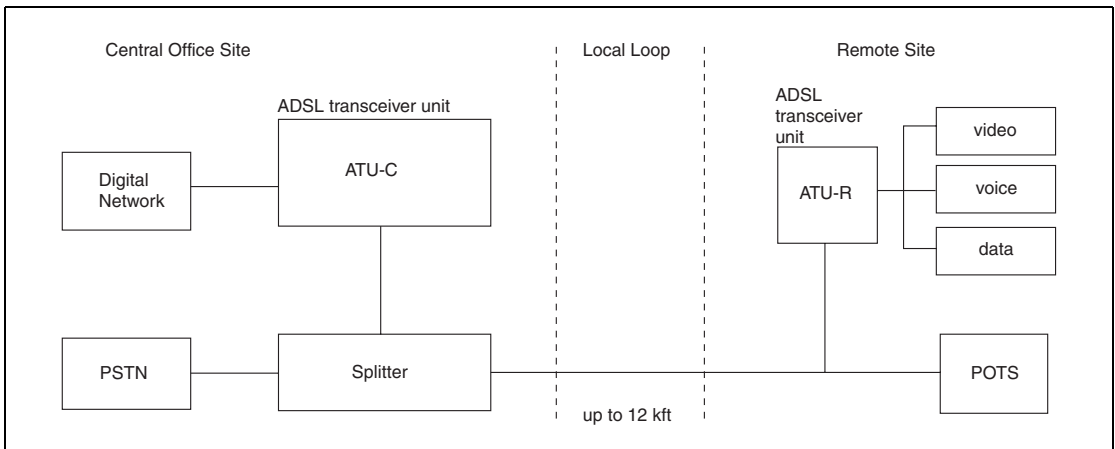
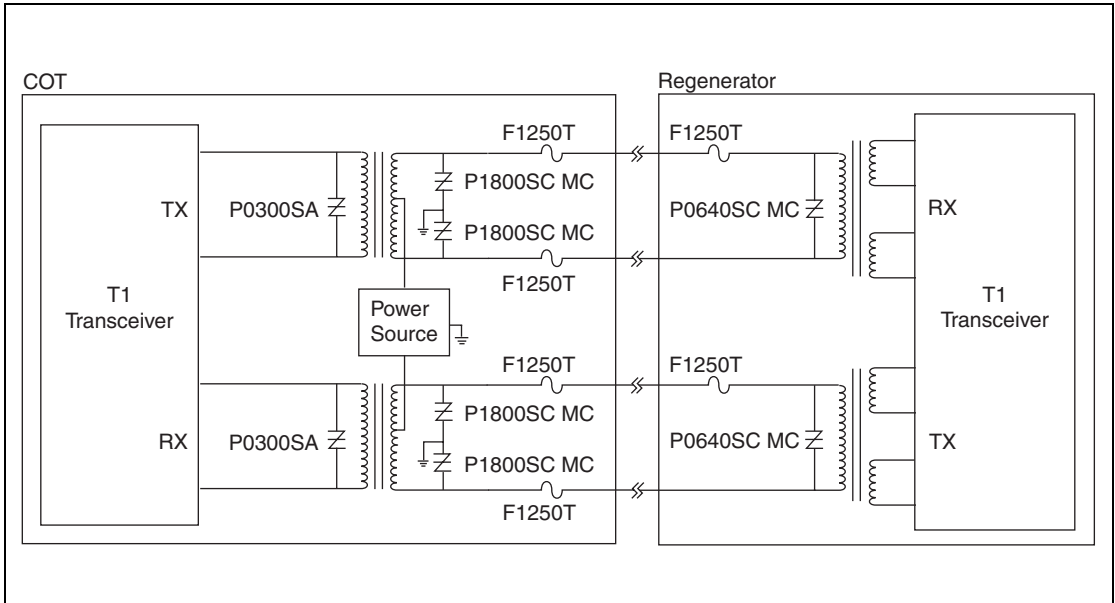

Figure 3.7 ADSL Overview
Figure 3.17 T1/E1 Protection
Transmission equipment should be protected against overvoltages that can exceed 2500 V and surge currents up to 500 A. In Figure 3.7 through Figure 3.17, *SIDACtor* devices were chosen because their associated peak pulse current ( $I_{PP}$ ) rating is sufficient to withstand the lightning immunity tests of GR 1089 without the additional use of series line impedance. Likewise, the fuse shown in Figure 3.7 through Figure 3.17 was chosen because the  $\text{amps}^2\text{time}$  ( $I^2t$ ) rating is sufficient to withstand the lightning immunity tests of GR 1089, but low enough to pass GR 1089 current limiting protector test and power cross conditions (both first and second levels).
Asymmetric Digital Subscriber Lines (ADSLs) employ transmission rates up to 6.144 Mbps from the Central Office Terminal (COT) to the Remote Terminal (RT) and up to 640 kbps from the RT to the COT at distances up to 12,000 feet. (Figure 3.7)
Longitudinal protection is required at the Central Office Terminal (COT) interface because of the ground connection used with loop powering. (Figure 3.17) Two P1800SC MC *SIDACtor* devices provide overvoltage protection and two F1250T *TeleLink* fuses (one on Tip, one on Ring) provide overcurrent protection. The P1800SC MC device is chosen because its  $V_{DRM}$  is compliant with TIA-968 regulations, Section 4.4.5.2, “Connections with protection paths to ground.” These regulations state:
For the transceiver side of the coupling transformer, additional overvoltage protection is shown in Figure 3.17 using the P0300SA *SIDACTor* device. When an earth ground connection is not used, only metallic protection is required. Metallic protection is satisfied using a single P0640SC MC *SIDACTor* device across Tip and Ring and a single F1250T *TeleLink* fuse on either Tip or Ring.